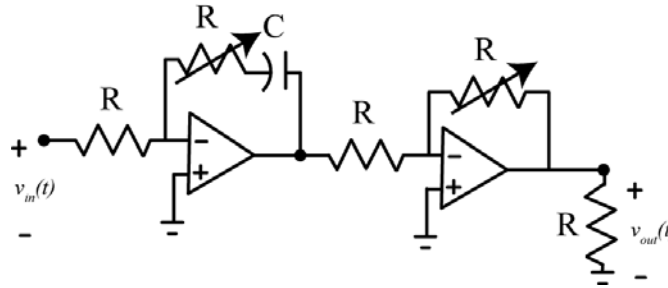

Figure 9. Proportional plus integral controller (with a load resistor attached)..
1) Modify the proportional controller circuit by adding a $1 \mu\text{f}$ capacitor and variable resistor, as shown in Figure 9.